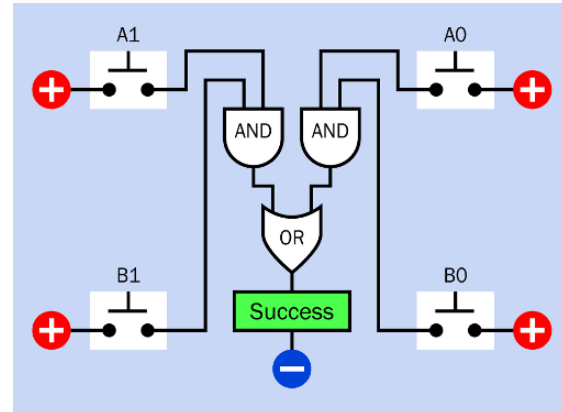
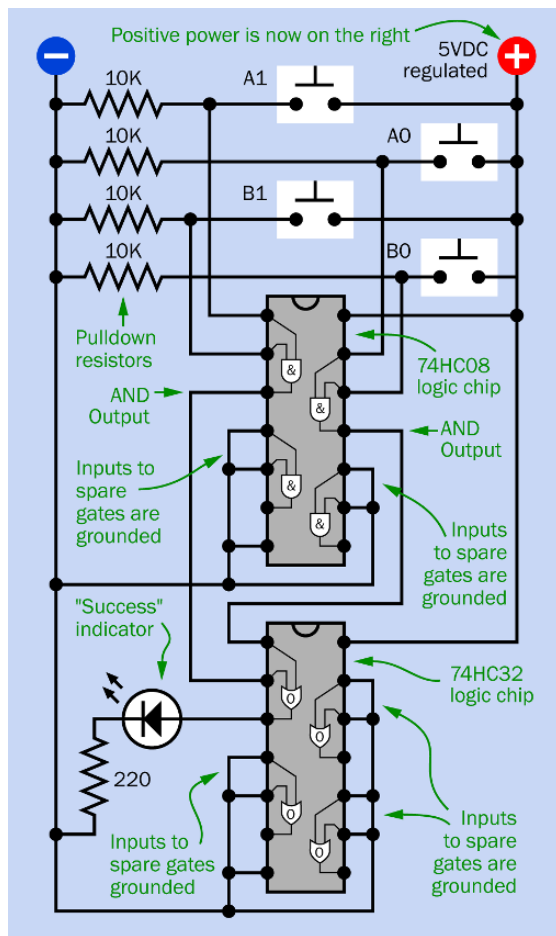

Figure 15-2. These logic gates will activate a “success” indicator if A0 and B0 are both pressed, or if A1 and B1 are both pressed.
Figure 15-8. This schematic shows the simplest breadboardable version of the ESP test.
Figure 15-2 shows how AND and OR logic gates can be used with the pushbuttons to confirm that a trial has been successful.
- A logic diagram is not the same as a component schematic. In a logic diagram, such as the one shown in Figure 15-2, power supplies to logic gates are not usually shown, and pullup or pulldown resistors are also omitted. In a component schematic, chips with pin connections are shown instead of logic gates, and all necessary power connections are included.
The concept of Figure 15-2 is very simple. It can be summarized in this sentence:
The schematic that corresponds with the logic diagram in Figure 15-2 is shown in Figure 15-8. I have squeezed some miniature representations of the gates into the chips to show what’s going on. “&” denotes an AND gate, while “O” is an OR gate. (These are not standardized abbreviations.)
Figure 16-1 translates these two sentences into a logic diagram. For the sake of clarity, I have shown this separately from the previous logic diagram in Figure 15-2. However, the two diagrams could be combined, as shown in Figure 16-2, because you can take the output from a single pushbutton and share it among two or more logic inputs. (In Figure 16-2 I have showed the connections from Figure 15-2 in gray, to distinguish them from the new connections.)
Would you like to add this functionality to the breadboarded circuit in Figure 15-8? You may have noticed that there were several gates in the chips in that schematic that were not being used. Because every gate operates independently of the others in a multigate chip, we could make use of unused gates to provide the initial features that I have described above. For instance, the “ready” test requires just two OR gates, and there are three OR gates inside the 74HC32 chip that are not being used.